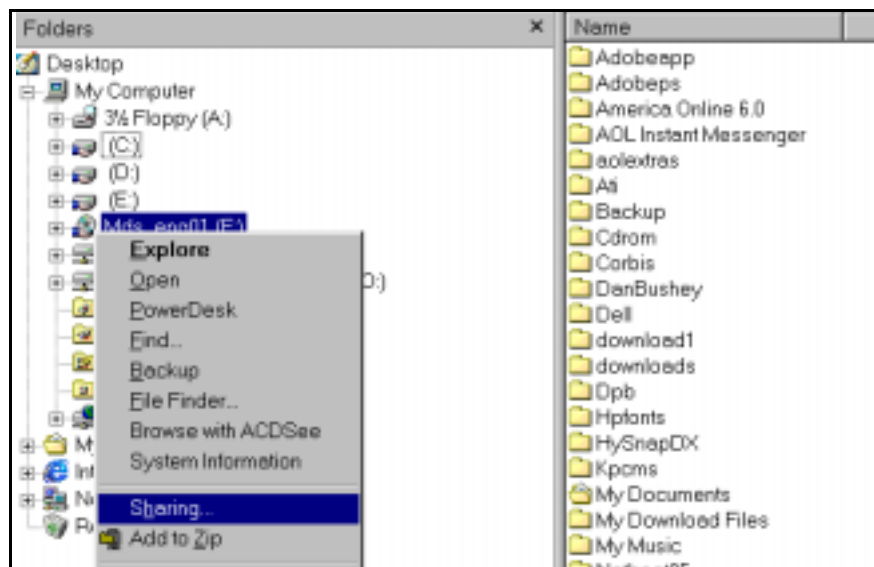

Figure 13-48 Windows Explorer
2. Right-click on *CDROM* icon and select *Sharing* from drop down menu (See Figure 13-48).